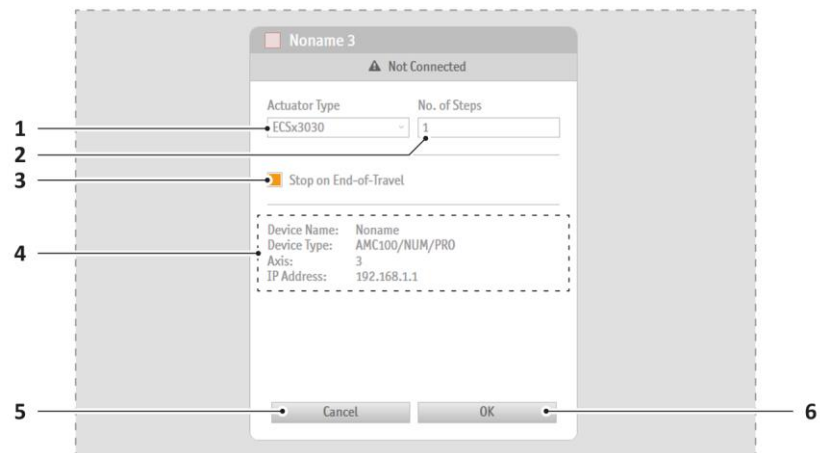

Figure 13 Axis tile, configuration view
1. Click on the arrow of the actuator type selection field (Figure 13/1).
- Type in the desired value into the number of steps setting field (Figure 13/2).
- To deactivate the option "stop on end of travel", uncheck the stop on end of travel checkbox (Figure 13/3).
- To activate the deactivated option "stop on end of travel", check the stop on end of travel checkbox (Figure 13/3).
**What** The configuration view of the axis tile gives some information on the device's properties (Figure 13/3). The following information is displayed:
- To save your changes, click [OK] (Figure 13/6).
- To discard your changes, click [Cancel] (Figure 13/5).